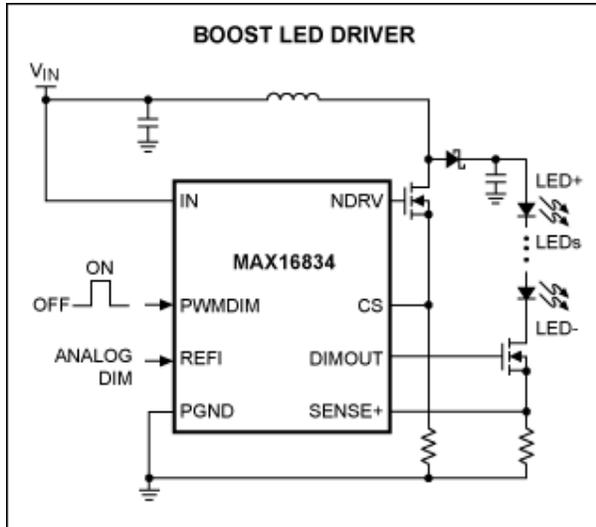

Figure 1. Common boost configuration for an HB LED driver.
Consider the common topology of a boost configuration such as the standard MAX16834 HB LED driver evaluation (EV) kit, the MAX16834EVKIT (Figure 1).